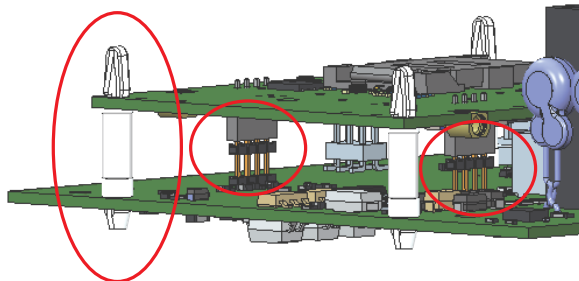

Figure 3. Connectors inserted correctly
5. Verify that the two smaller connectors insert correctly, see Figure 3. If you insert the connectors incorrectly, do the following: